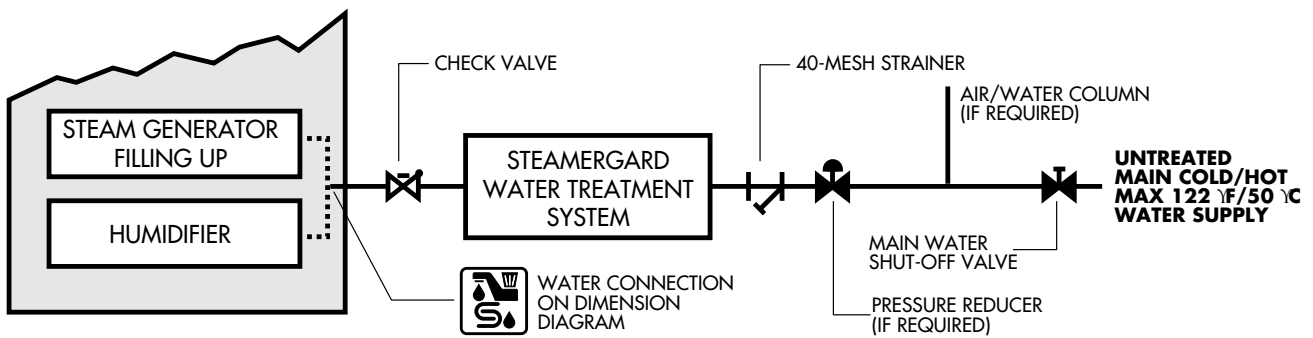

Figure 2-7. Water Supply Lines water treatment system
- c. When installing a water supply system with a water treatment system, we recommends the plumbing layout illustrated in Figure 2-7.
- a. If the Oven/Steamer is installed with a water treatment system, refer to figure 2-7, and the water treatment system manual for detailed instructions.